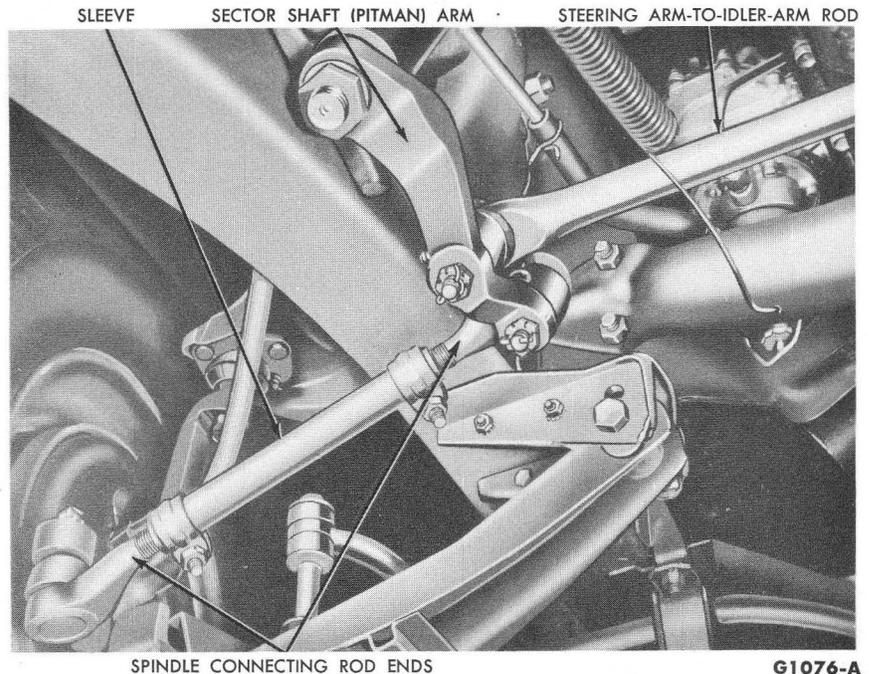

FIG. 1—Spindle Connecting Rod
The manual steering linkage (Figs. 1 and 2) consists of the sector shaft arm (Pitman arm), the steering arm to idler arm rod, the steering idler arm, and the spindle connecting rods (tie rods).
1. Remove the cotter pin and nut from the worn rod end ball stud (Figs. 1 and 2).
A spindle sleeve should be replaced if it becomes worn or damaged (Figs. 1 and 2). **Do not attempt to straighten the sleeve if bent or chase the threaded portion if damaged.**
1. Remove the cotter pins and nuts from the ball studs at the sector shaft arm and the idler arm, and remove the steering arm to idler arm rod assembly (Figs. 1 and 2), using tool OTC 462.